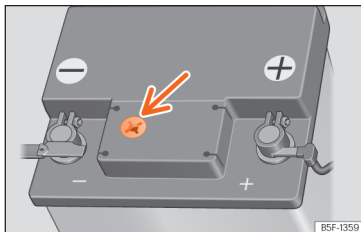

Fig. 217 Sight glass on the top of the 12-volt battery (schematic representation).
- Check the colour display in the sight glass on the top of the battery >>> **Fig. 217**.